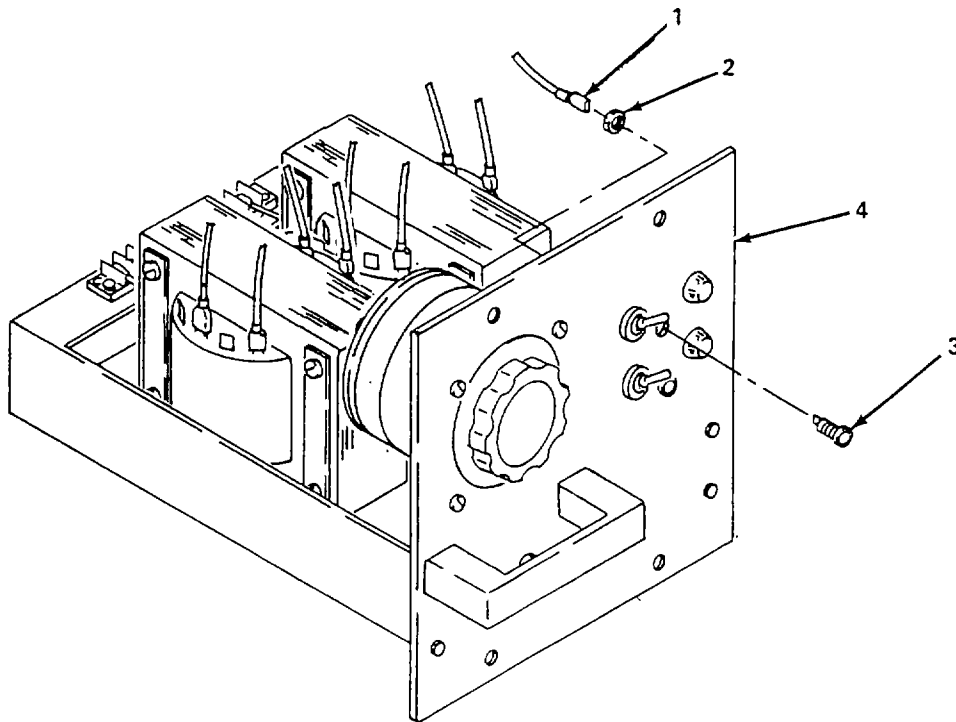

Figure 5-18. Double Light Power Supply (Inner Lock) Indicator Light, Replace.
(2) *Replace indicator light.* (figure 5-18)